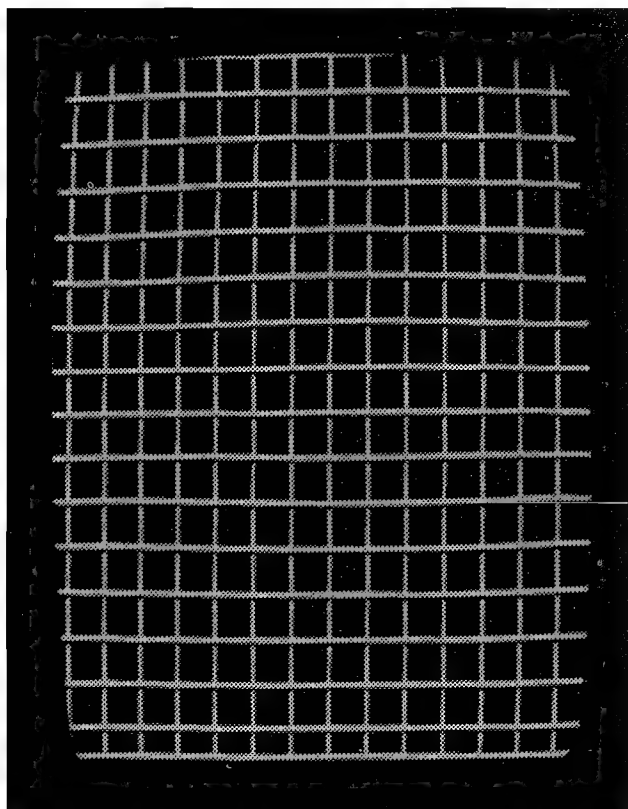

Figure 9 Cross hatch pattern
6. CROSS HATCH PATTERN: SEE FIGURE 9.